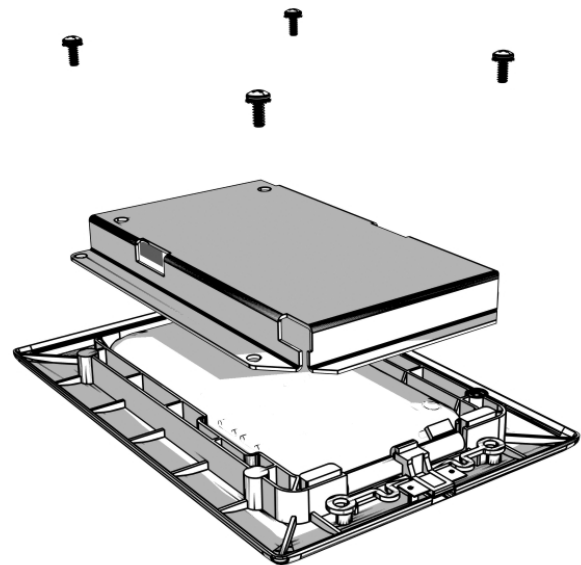

Figure 7: Attach Back Plate
12. Place back plate over iPod and secure with 4 screws. The back plate has a foam pad to hold the iPod touch very securly. See Figure 7